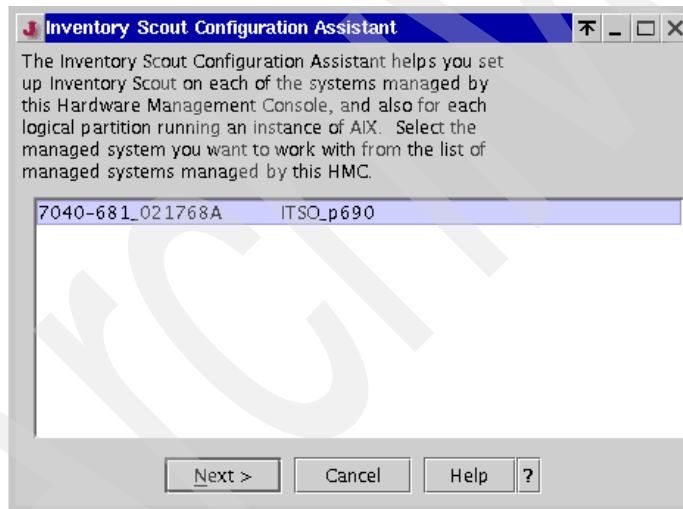

Figure 11-4 Inventory Scout Configuration Assistant (select managed system)
2. Select the Inventory Scout Configuration task in the Contents area . The Inventory Scout Configuration Assistant window opens as in Figure 11-4.